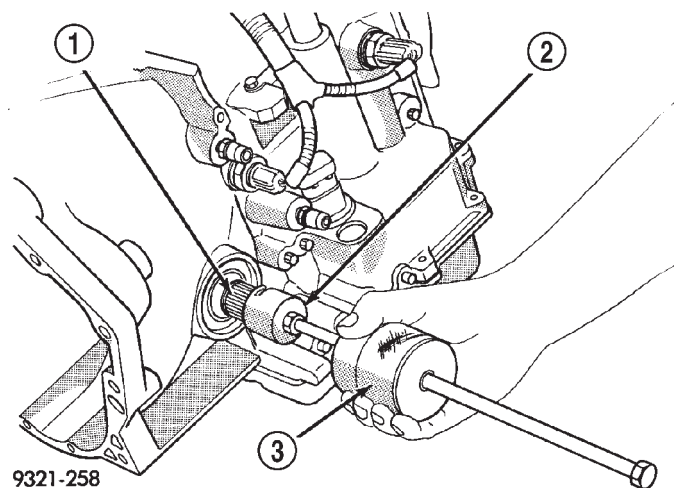

Fig. 107 Long Stub Shaft Removal
- (1) Remove transaxle from vehicle. Refer to Transaxle Removal and Installation procedure in this section.
- (2) Remove valve body from transaxle.
- (3) Remove solenoid connector from transaxle case.
- (4) Remove long stub shaft from transaxle (Fig. 107).